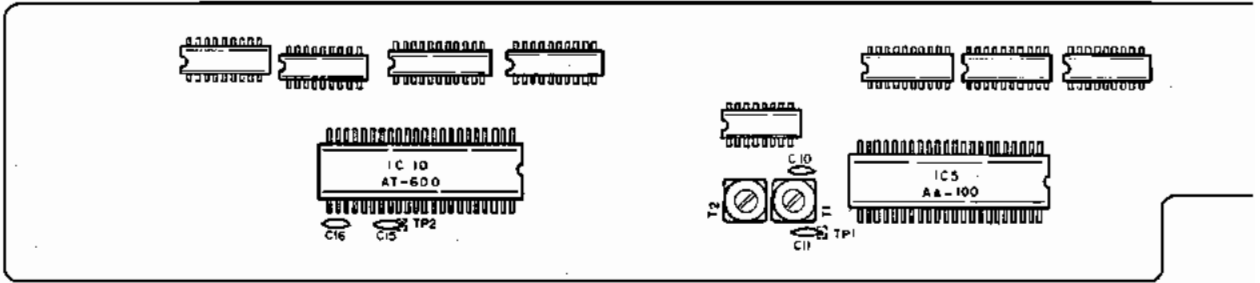

Fig. 2-8 Control PCB
1. CLOCK FREQUENCY ADJUSTMENT (Refer to Fig. 2-8)